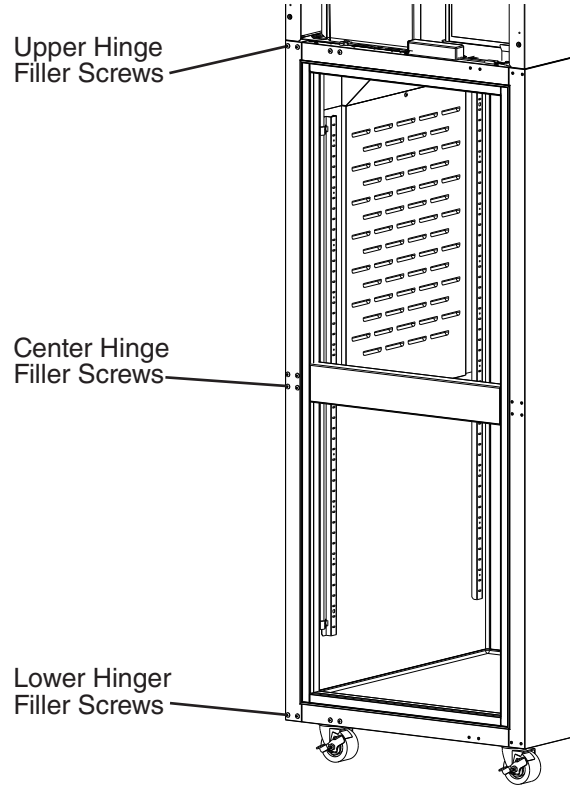

Fig. 59
- 11) Remove the lower hinge bracket, then move the filler screws for the upper, center, and lower hinge brackets to the opposite side of the cabinet. See Fig. 59.